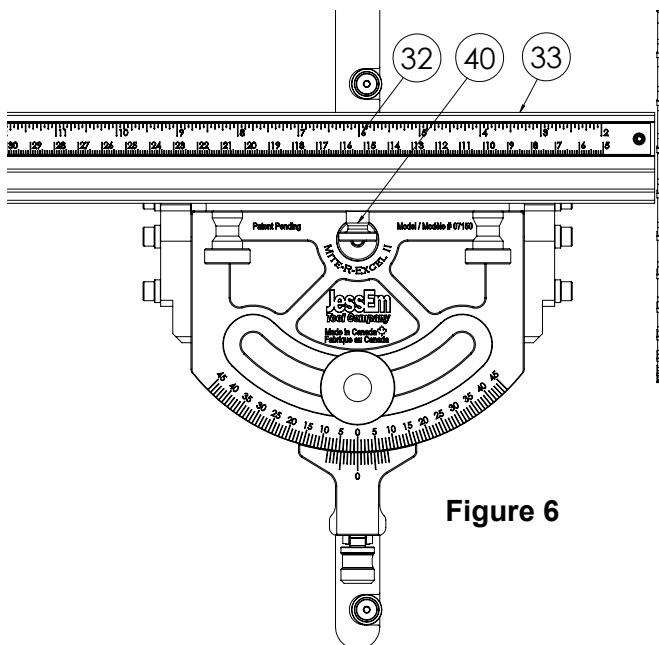

Figure 6
- b. Once the extrusion is through both T-Bolts, line up the Fence Locating Pin Knob (Part #40) with the 6 inch mark on the ruler (See **Figure 6**). Push the knob forward to engage it as you slowly slide the fence towards the blade. At roughly the 6-1/8" mark on the ruler, (See Part 32 in Figure 6) the locating pin will engage with the preset Fence Locating Nut in the fence extrusion. When the locating pin is engaged, tighten both fence knobs.